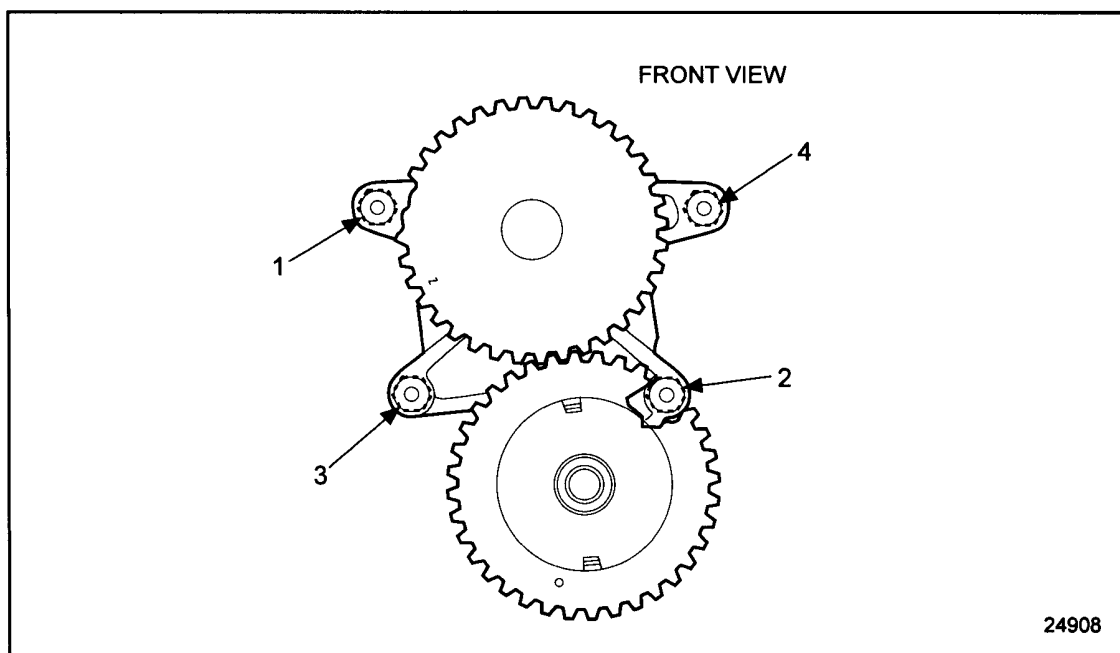

Figure 1-381 Oil Pump Bolt Torque Sequence
Effective with engine serial number 4R25678 manufactured on September 18, 1998, an improved oil pump and balance shaft assembly is used. The improved oil pump is fastened to the balance support assembly with M10 bolts (torque to 66 N·m [49 ft·lb]). The former oil pump was fastened with M8 bolts (torqued to 34 N·m [25 ft·lb]). The bolts are installed from the back side of the oil pump. See Figure 1-381.
3. Install and tighten the four bolts that attach the oil pump to the balance support. See Figure 1-381.